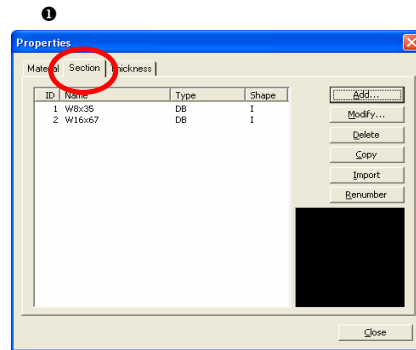

Figure 1.6 Dialog box for Section Properties
2. Click  shown in Fig.1.6.
7. Select the **Section** tab on the top of the **Properties** dialog box (Fig.1.6– ❶).
18. Click  in the **Properties** dialog box (Fig.1.6).